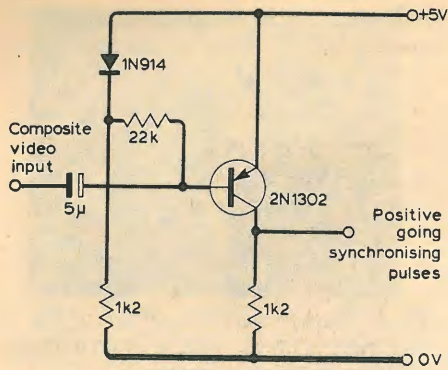

Fig. 10. Circuit to extract sync pulses from composite video.
**Sync. separator.** In order that the burst may be gated in at the correct position, and to change the phase of the subcarrier at line frequency, it is required to extract the synchronizing pulses from the incoming video waveform. In Fig. 10, the p-n-p transistor is normally